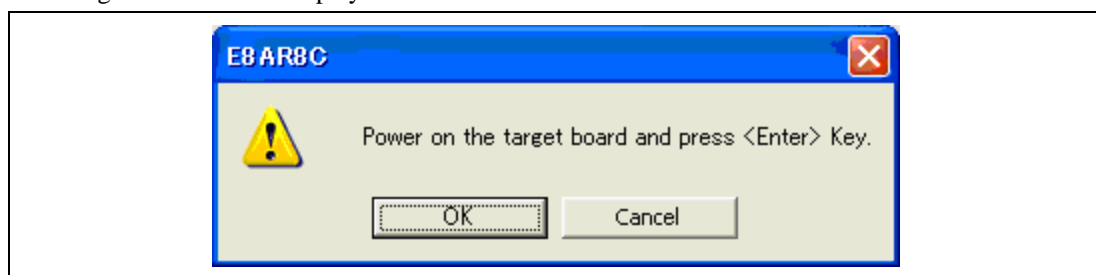

Figure 3.16 Dialog Box of the Power-on Request Message
9. When [Power Target from Emulator. (MAX 300mA)] is not checked, the dialog box shown in Figure 3.16 will be displayed.